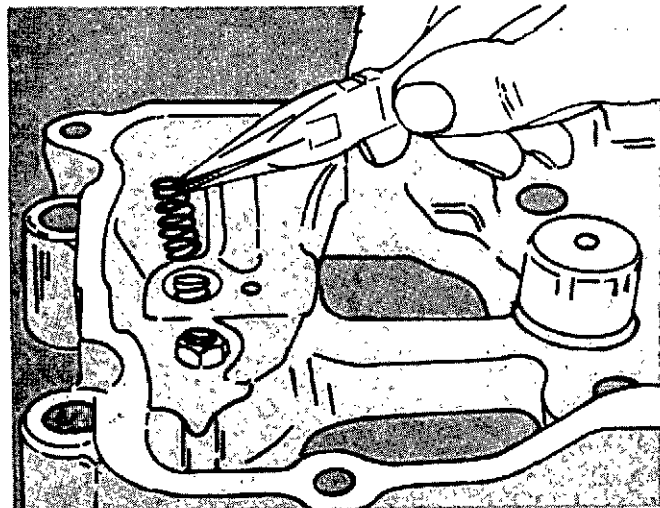

Fig. 20-15. Remove The Control Valve Springs.
2. Remove the control valve springs, Fig. 20-15.